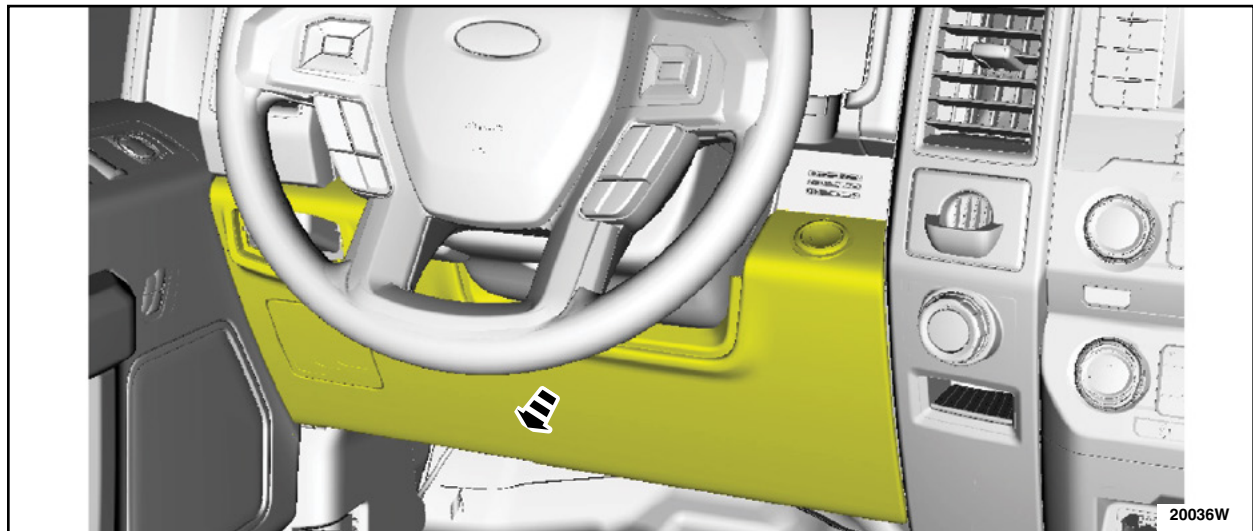

FIGURE 24
42. Lower the steering column opening trim panel. See Figure 24.